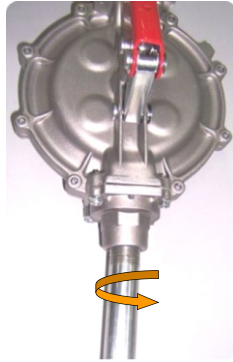

Figure 2
- Screw the Telescopic Suction tube (see figure 2) into the female threads in the pump inlet. It is good practice to use a thread sealant such as Teflon[®] in connecting the telescopic suction tube to the pump inlet. Tighten the connection.